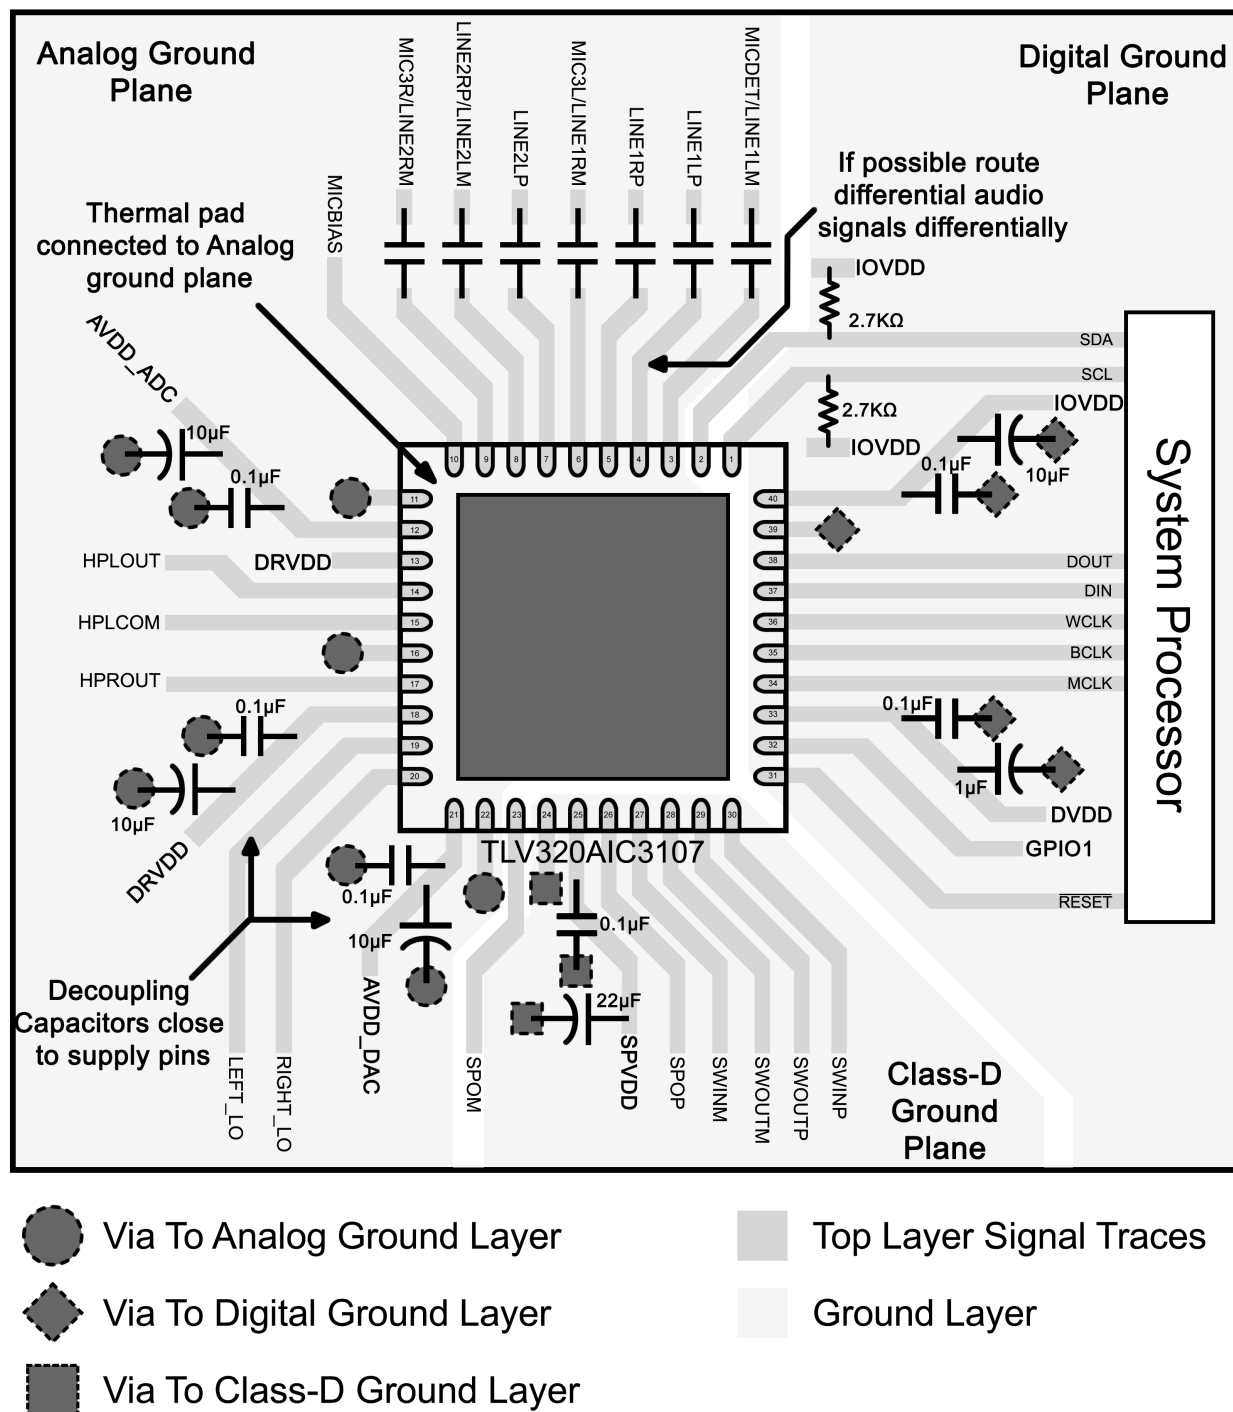

Figure 41. AIC3107 WQFN Layout Example
- Following the recommended component placement, schematic layout and routing given in the Figure 41 below, integrate the device and its supporting components into the system PCB.